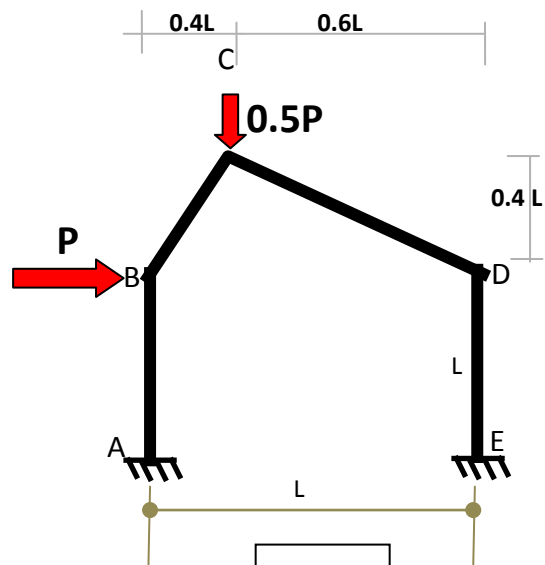

Fig. 1
- Q3.** For the structure shown in Figure 1, clearly show all possible failure mechanisms. Obtain the ultimate failure loads of each mechanism and carry out yield check for the most critical mechanism. All members have a plastic moment capacity of M_p .